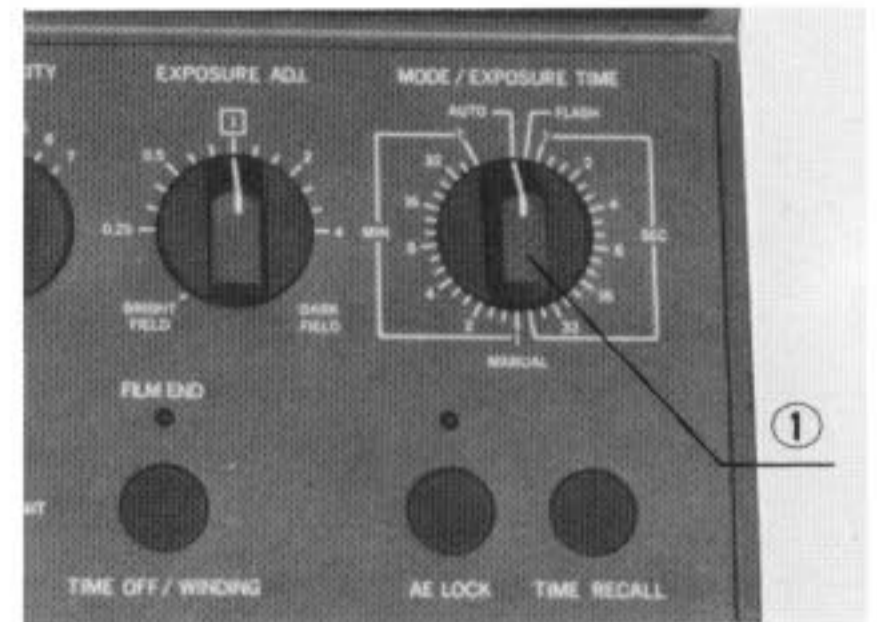

Fig. 19
- 1) Ascertain that the MODE/EXPOSURE TIME switch ① is set at AUTO. (Fig. 19)